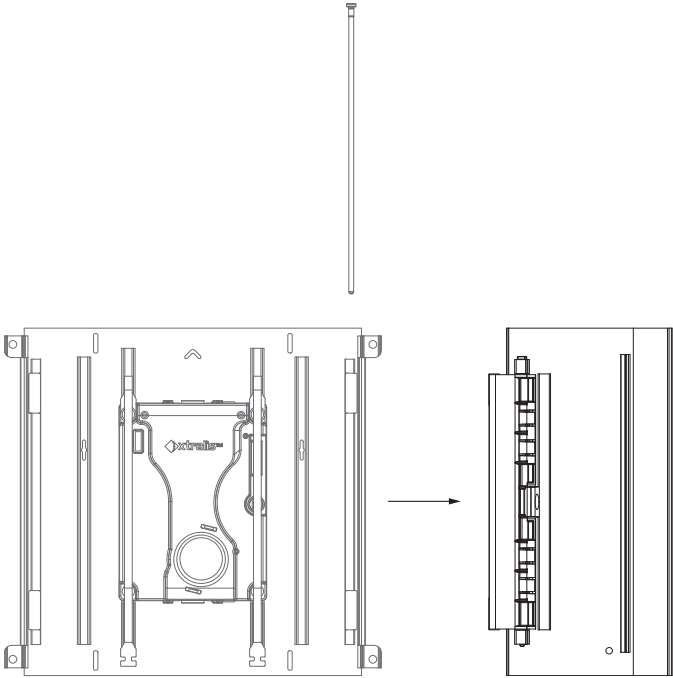

Figure 4-10: Detaching door
5. Detach the front door from the fascia by removing pin A from the hinge (Figure 4-9, Figure 4-10). Leave pin B in place – do not remove it.